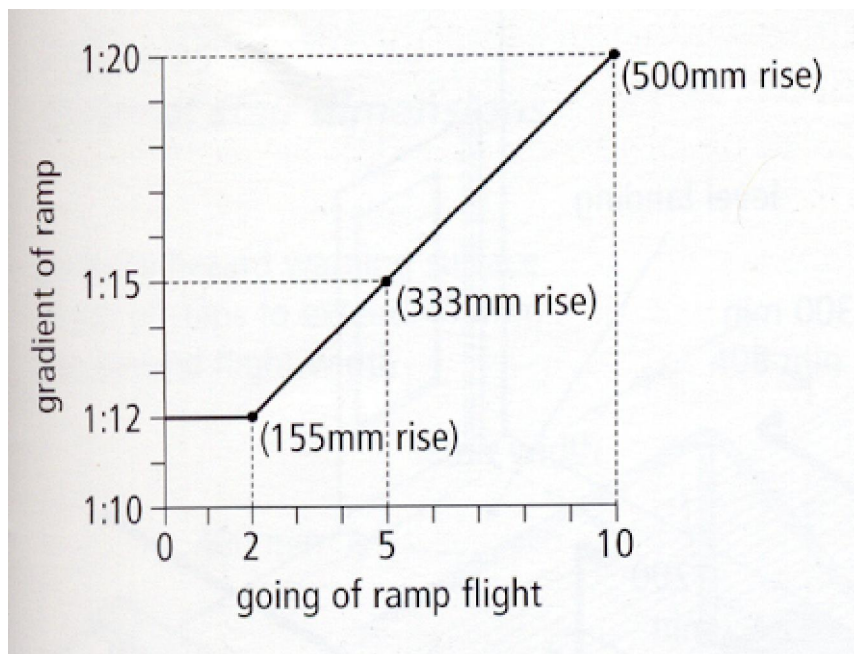

Figure 12
- Ramps should be as shallow as possible; the maximum gradient is 1:12 (Figures 12, 13 & 14). An occasional exception can be made for short, steeper ramps to existing buildings.